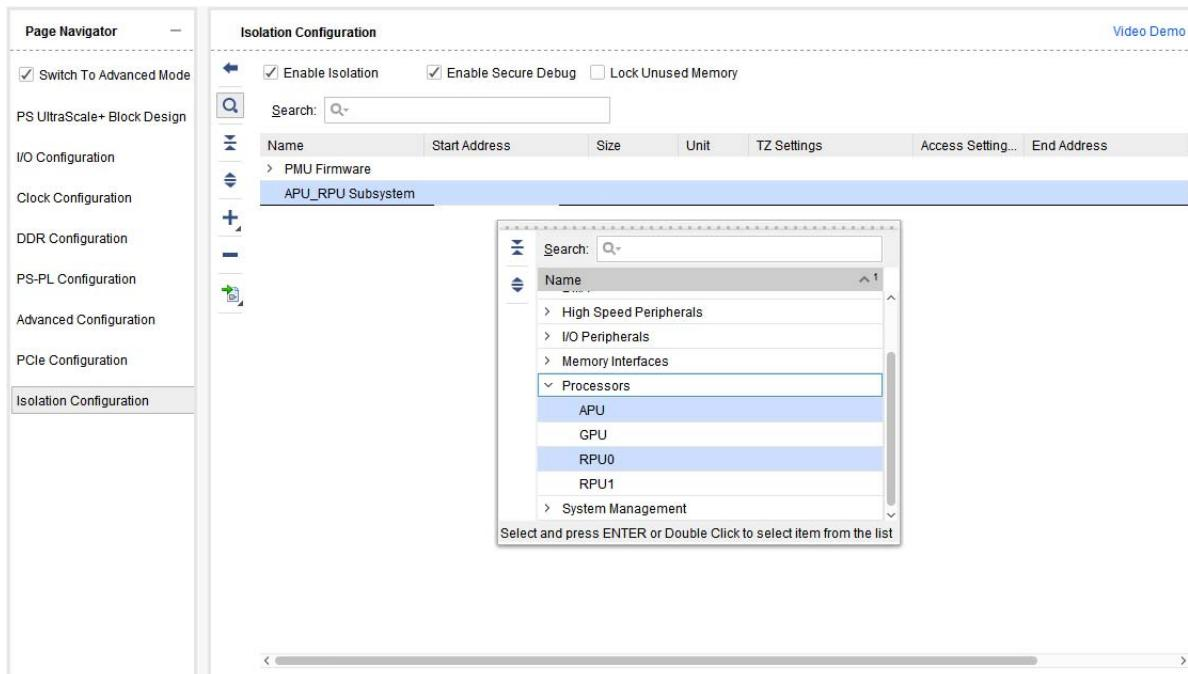

Figure 4-18: Adding Masters
3. Right-click **APU_RPU Subsystem** and then click **Add Master**. Select **APU,RPU0** from processors category as shown in Figure 4-18.